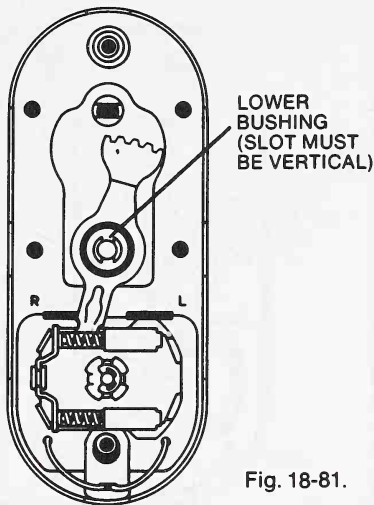

Fig. 18-81.
10. Install the lower bushing (Fig. 18-81).